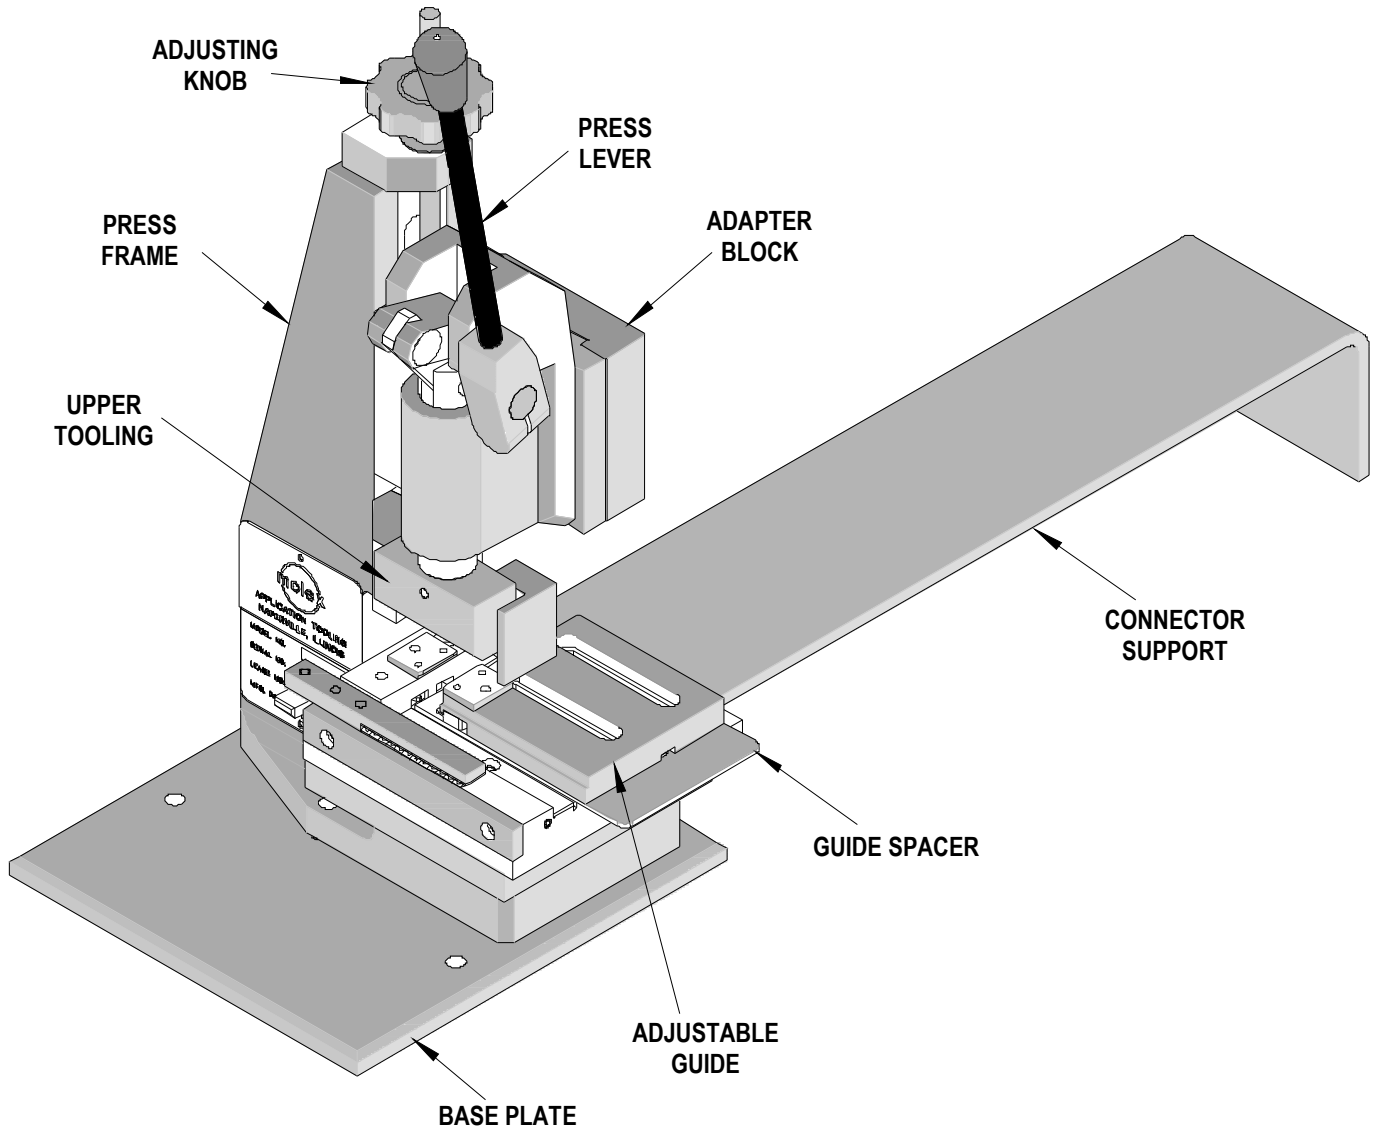

Figure 1-1
Set the press on a bench of suitable height and capable of supporting at least 70 kg (155 lbs). Using the two (2) M4 X 12 FSHCs supplied with the press, mount the Housing Load Platform to the press as shown in Figure 1-1. (See also the assembly drawing in Section 4.) There are two (2) clearance holes in the base plate (see Fig, 1-1), for 8 mm or 5/16 in. screws, if it is desired to bolt the press to the bench. Make sure there is adequate room around the press for the operator to load connectors and to store wires and finished harnesses. Make certain there is adequate lighting.
Refer to Figure 1-1 and 2-1.